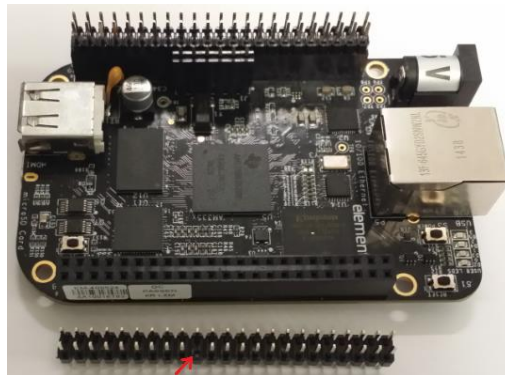

Figure 3 Header adapter without pin 28
- a. Pull the pin out of the header adapter. See Figure 3.